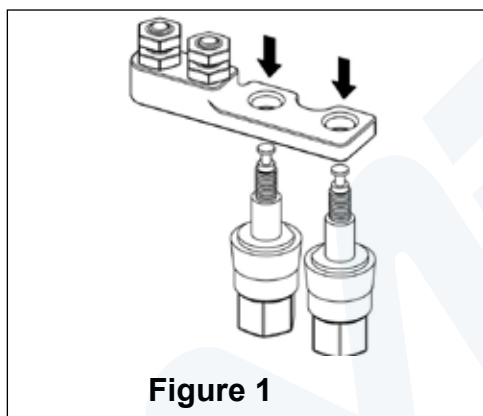
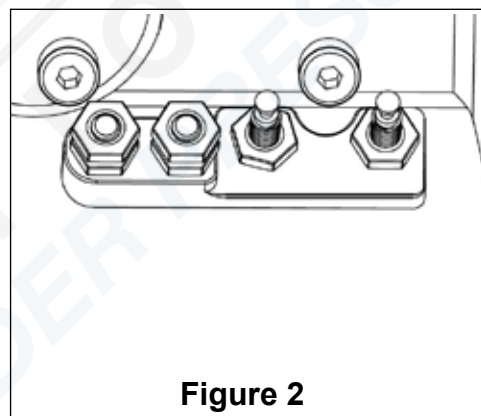

Figure 1
Figure 2
1. Use a 3/8" nut driver to remove the communication post hex nuts and communication posts (24) from the helmet shell (1). Remove the old plastic tubing (82) from the communication posts and replace it with new plastic tubing from the communications kit. Re-install the communication posts into the helmet shell. Insert the communication posts through the holes in the terminal block (83) with the "U" shape of the block facing up (*Fig. 1*). Secure the terminal block to the helmet shell with a 3/8" nut driver and one hex nut per communication post (*Fig. 2*).